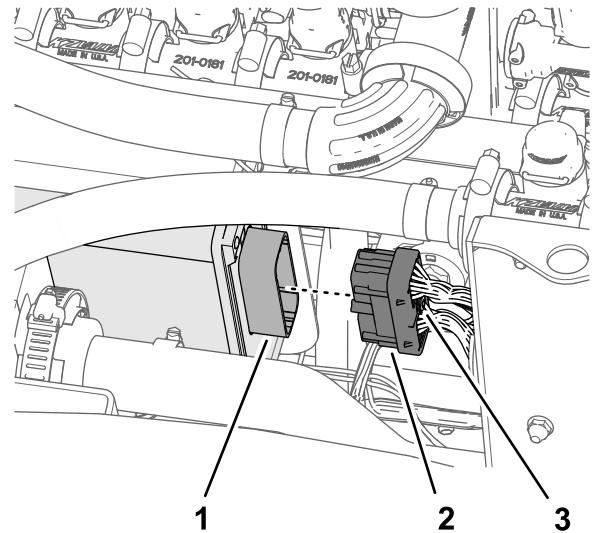

Figure 118
1. Insert the 40-socket connector of the 102 cm (40 inch) branch of the kit sprayer harness into the 40-pin connector if the ASC 10 spray controller (Figure 118).
2. Thread the thumb screw of the 40-socket connector into the ASC 10 connector by hand (Figure 118).